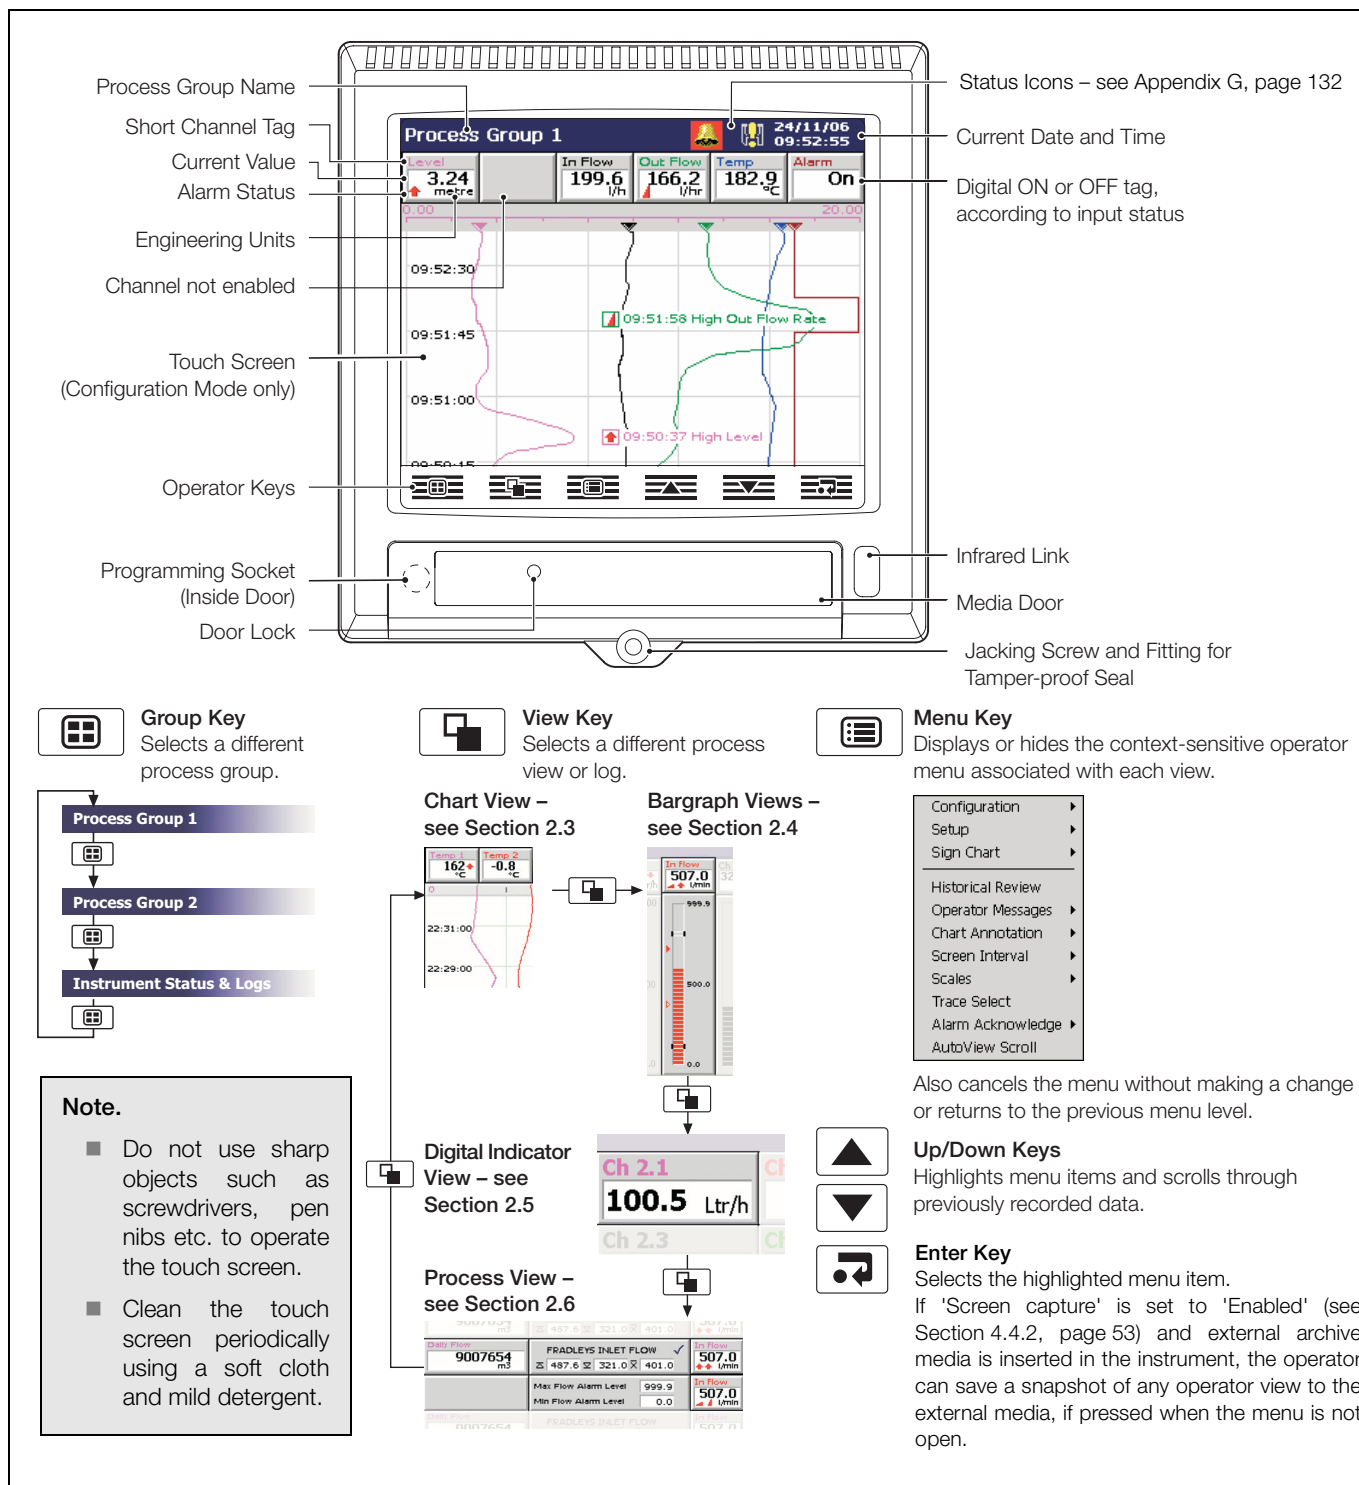

Fig. 2.1 Displays and Controls
2.2 Displays and Controls – Figs. 2.1 and 2.2